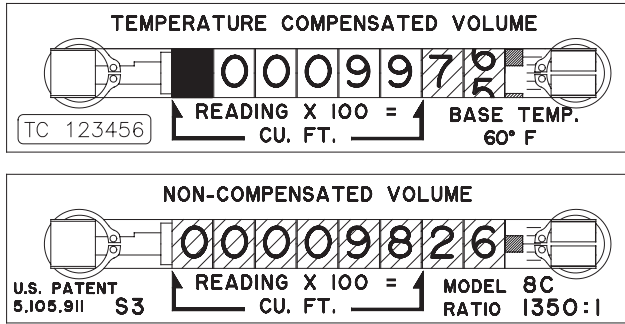

Figure 25 - A reading of 9756 would be the number recorded for TC unit operational check.
3. Observe the Temperature Compensated volume odometer. When the odometer stops turning after an intermittent compensating cycle, record the last 3-digit reading and the value indicated by the graduated marks on the test wheel as the "Counts, Initial" (Ci) indicated on the odometer. This is read as a whole number. (Refer to the Sample Counter Reading in Figure 25.)
Example: Assume the gas temperature is 53.0°F, and from Figure 25, the initial odometer reading (Ci) = 9756. We then allow the odometer to cycle 25 times and record the final reading. We will further assume the final odometer reading (Cf) = 2295.